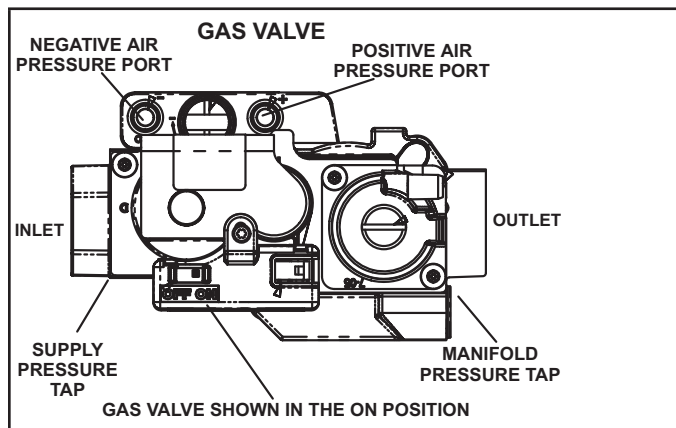

FIGURE 68
Gas Valve Operation (FIGURE 68)
- 6 - Move gas valve switch to OFF. See FIGURE 68.
- 8 - Move gas valve switch to ON. See FIGURE 68.